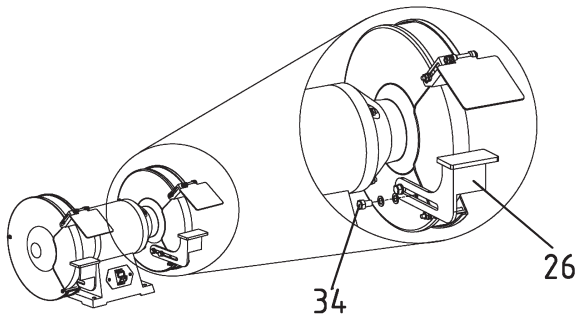

Figure 1
- Step 3:** Pivot the tool rest down and forward so that it is in a horizontal position. Fix right tool rest by following order: washer, spring washer, bolt(#34), as shown in Figure 1.